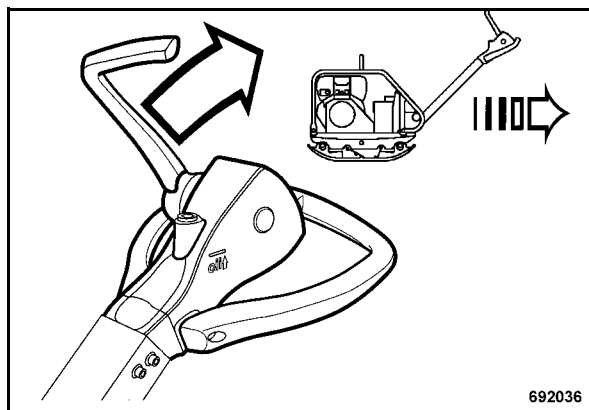

Fig. 25
- Pull the travel lever (Fig. 25) back, until the vibratory plate has reached the desired speed in reverse.